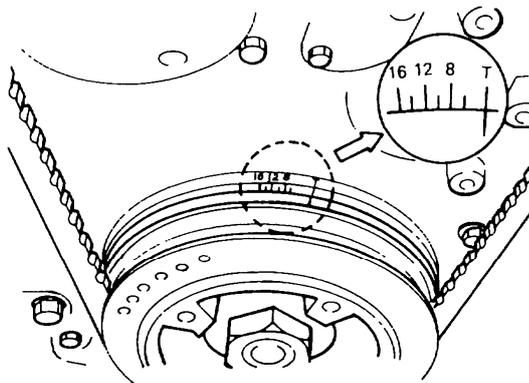

Figure 9 Timing Mark Alignment
- e. Number one cylinder is now on top dead centre (TDC) compression stroke (Figure 9).
- g. To adjust the remaining valves, rotate the crankshaft by hand in the direction of rotation for one complete revolution until the timing mark is aligned (Figure 9).